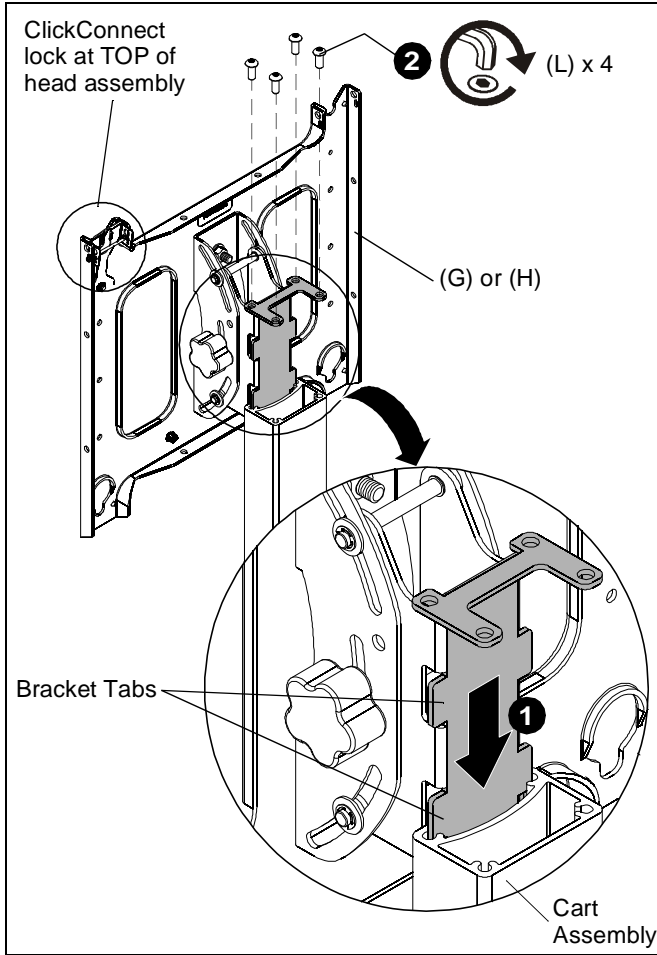

Figure 4
IMPORTANT ! : When attaching head assembly ensure that the ClickConnect lock is at **TOP** of head assembly, and bracket tabs slide into the stand assembly. (See Figure 4)
1. Slide head assembly (G) or (H) into the stand assembly. (See Figure 4)
2. Attach head assembly (G) or (H) to the cart assembly using four 5/16-18 x 3/4" button head cap screws (L). (See Figure 4)